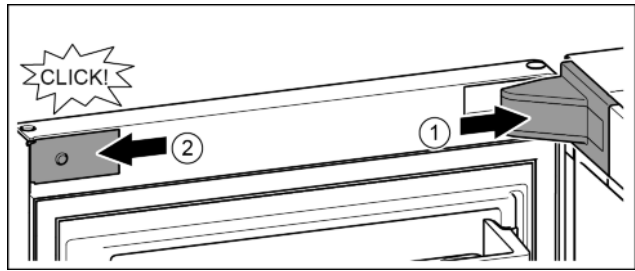

Fig. 24
- ▶ Position the bearing bracket and engage. If necessary push apart carefully. *Fig. 24 (1)*
- ▶ Position the panel on the side and click into place. *Fig. 24 (2)*